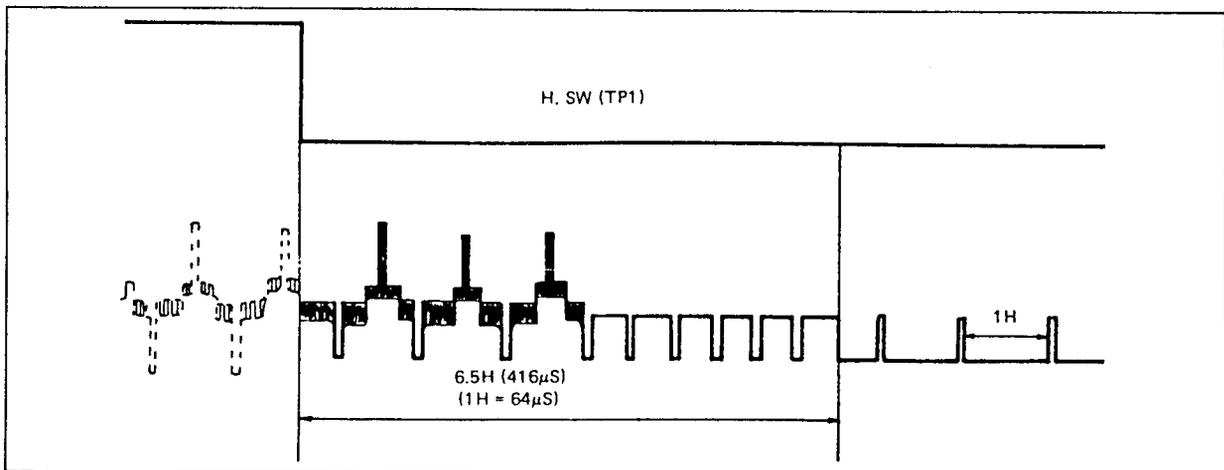

Fig. 3-2-4
- b) Connect the probe of oscilloscope as the Fig.3-2-4 and trigger to CH-1(H.SW).